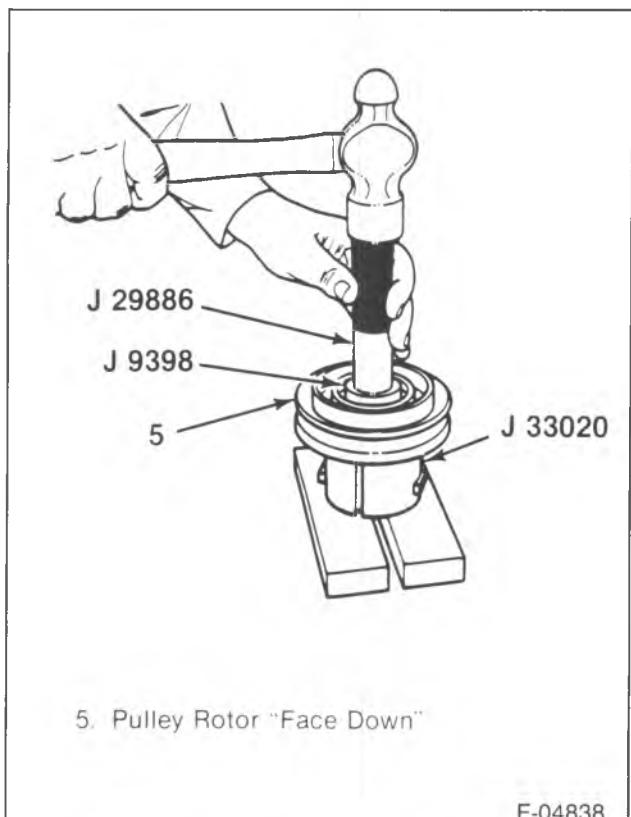

Figure 12—Removing the Pulley Bearing
4. Pulley bearing (4) from the pulley (5) using J 9398-A and J 29886 (figure 12).
- Remove the forcing screw from J 33020 and with the puller tangs still in place in the pulley slots, turn the assembly upside down onto a flat surface (figure 12).
- When removing the old pulley bearing (5) allow the staking to remain, then file away the old staked metal for proper fit when installing a new bearing (5) in the pulley bore.